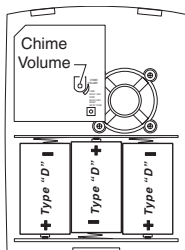

Figure 3
- 3. Install 3 alkaline “D” batteries.** Make sure batteries are oriented properly (see Figure 3).
5. Adjust volume control. Adjust volume control to desired volume (see Figure 3).